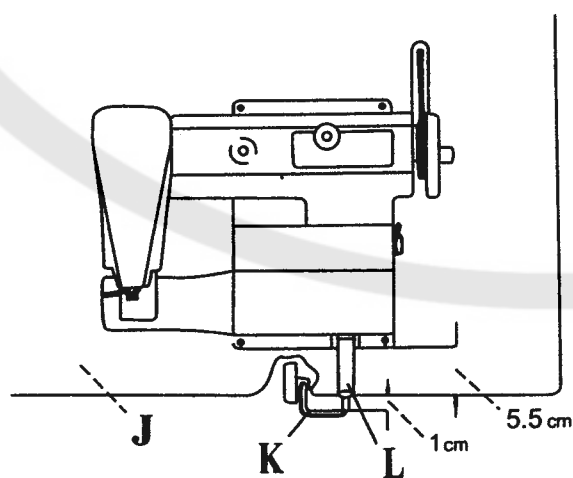
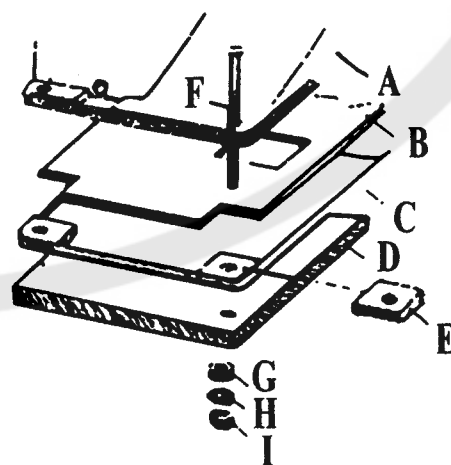

Fig.2
Fig.1
## 二、Fitting machine head(Fig.1、 Fig.2)
①Put pads “A” , “B” , “C” , “D” , “E” onto the table in order as shown in fig1. Insert four hexagon head bolts with small head “F” into the holes. After putting on washers “G” and “H”, put on hexag nuts “I” , tighten the four nuts diagonally, and fix the machine head on the table .
②Connect front end of long shaft with knee lifter “K” and sleeve “L” . When the crossbar of knee lifter is 1cm distant from the front end of table “J” , fix the sleeve.
③Put on “V” belt “N”, move the motor leftwards or rightwards so as to fix the motor under the sewing table after making the motor pulley in alignment with handwheel. Regulate the motor’s height in order to make the belt in an appropriate state of tightness.
④First fix the motor switch at the bottom right place of the front end of sewing table for the convenience of operation, and then turn on the power.